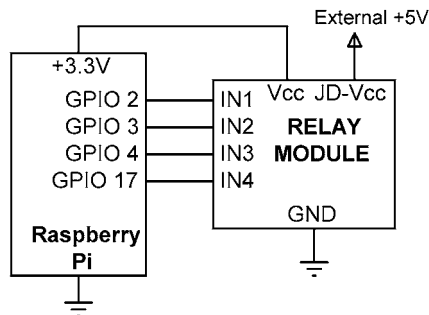

Figure 19.7 Circuit diagram of the project
Circuit diagram: The circuit diagram of the project is shown in Figure 19.7. IN1, IN2, IN3 and IN4 inputs of the relay board are connected to Raspberry Pi GPIO pins 2, 3, 4, and 17 respectively. Also, GND and +3.3V pins of the development board are connected to GND and VCC pins of the relay board. You must make sure that jumper JD is removed from the board. Connect an external +5V power supply to the JD-VCC pin of the relay board.
- Connect the relay module to the Raspberry Pi as shown in Figure 19.7.